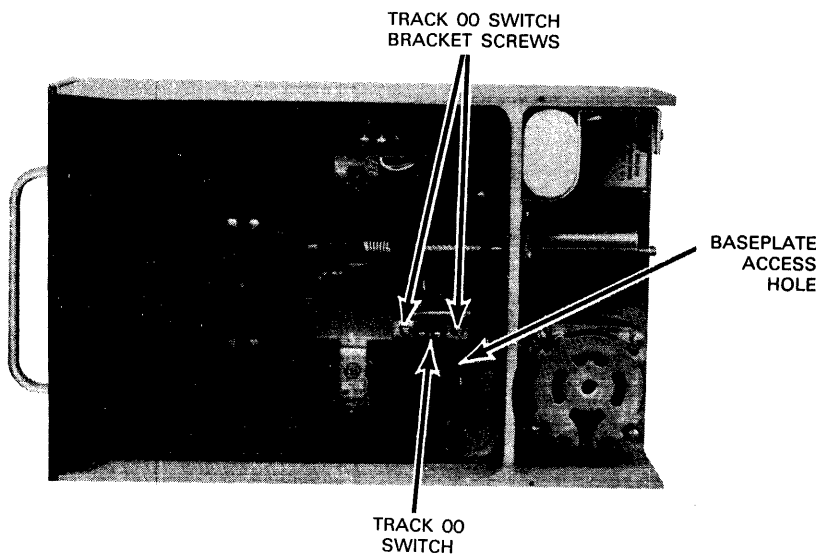

Figure 5-25. Track 00 Switch Removal and Replacement
3. Loosen two retaining screws in bracket (Figure 5-25).
3. Remove retaining screws at either end of bracket (Figure 5-25).
1. Insert switch leads through baseplate access hole, and position bracket and switch on baseplate (Figure 5-25).